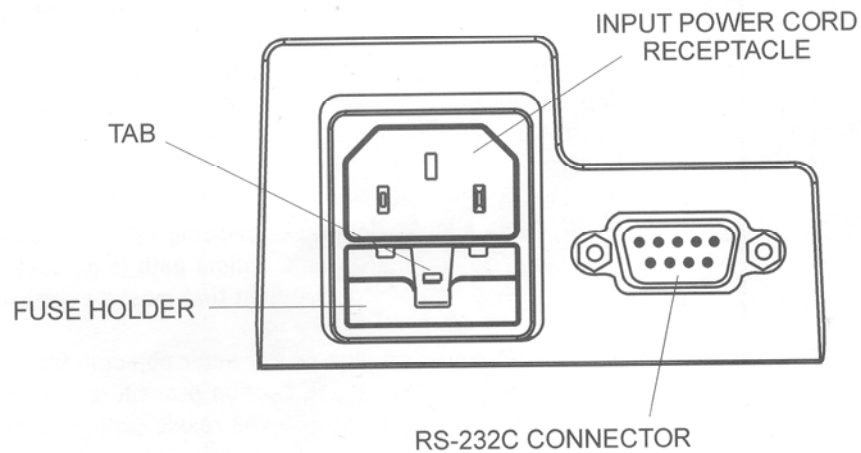

Figure 1, Rear Connection Panel
2. If applicable, connect the printer interface cable from the printer to the RS-232C connector on the rear connection panel of the LensChek (Figure 1). Tighten the screws to the RS-232C Connector.
1. Attach one end of the power cord into the input power cord receptacle of the LensChek (Fig. 1). Attach the other end of the power cord to a power source of the correct voltage.